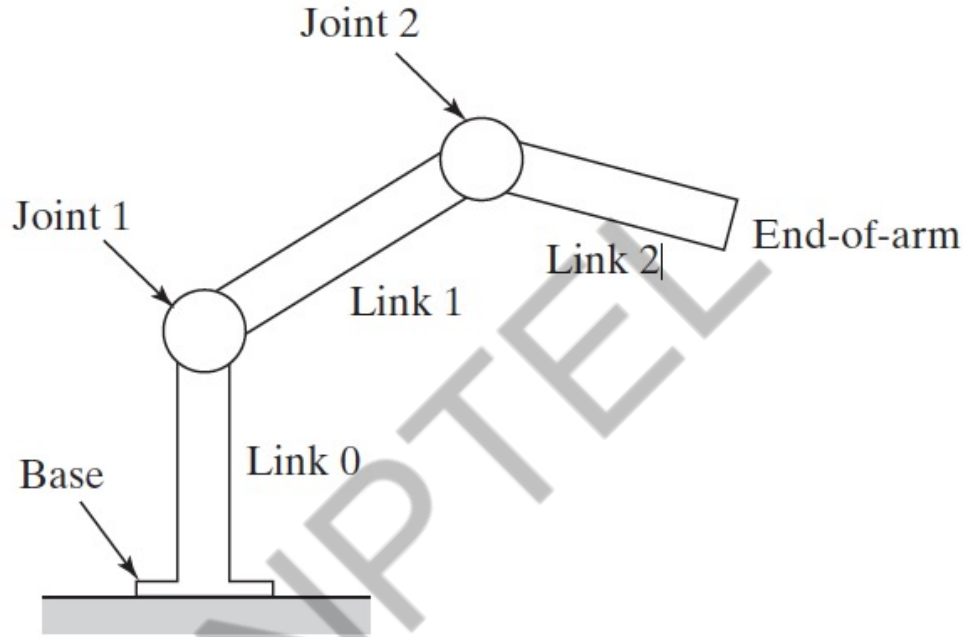

Figure 8.1 Diagram of robot construction showing how a robot is made up of a series of joint-link combinations.
- This joint-link numbering scheme is illustrated in Figure 8.1.